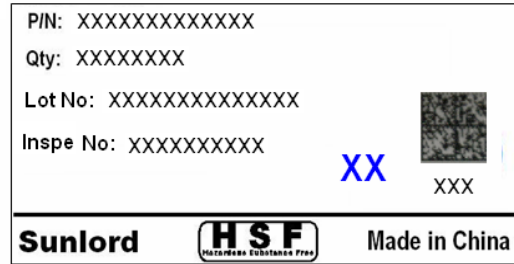

Fig.9.2.3-2b
2) Marking on outer case (see Fig.9.2.3-3-5):